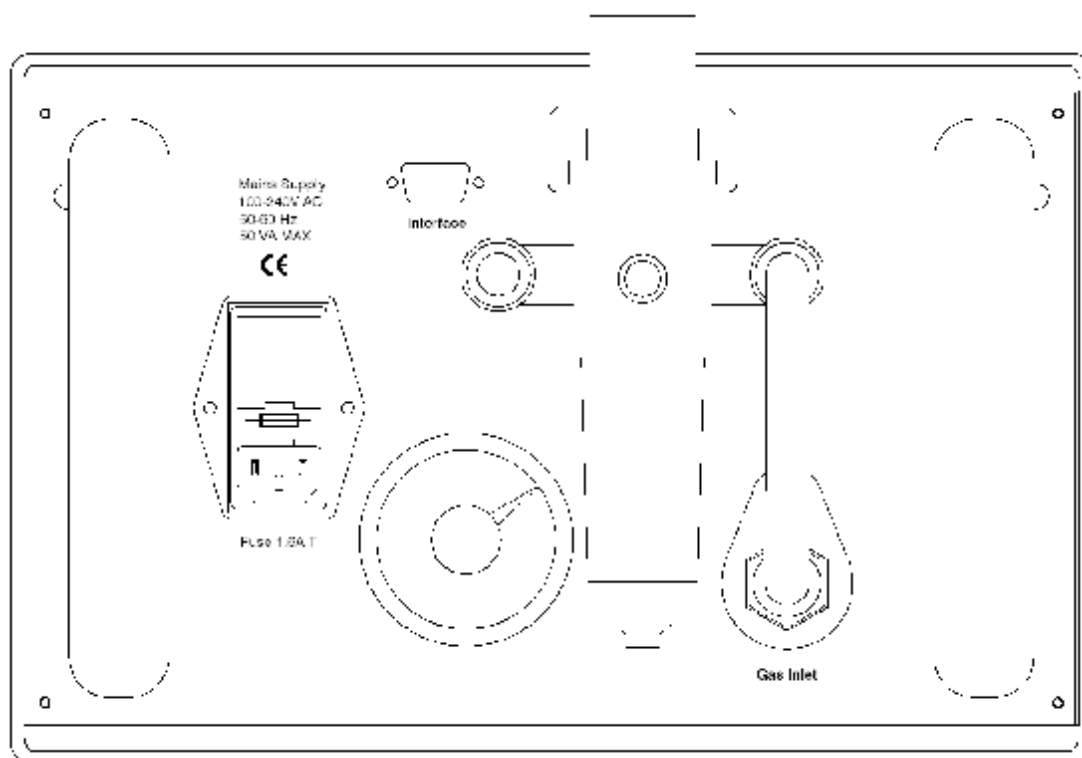

fig. 1 - Rear Panel
4.2 Rear Panel Controls (see fig.1 pg 4)